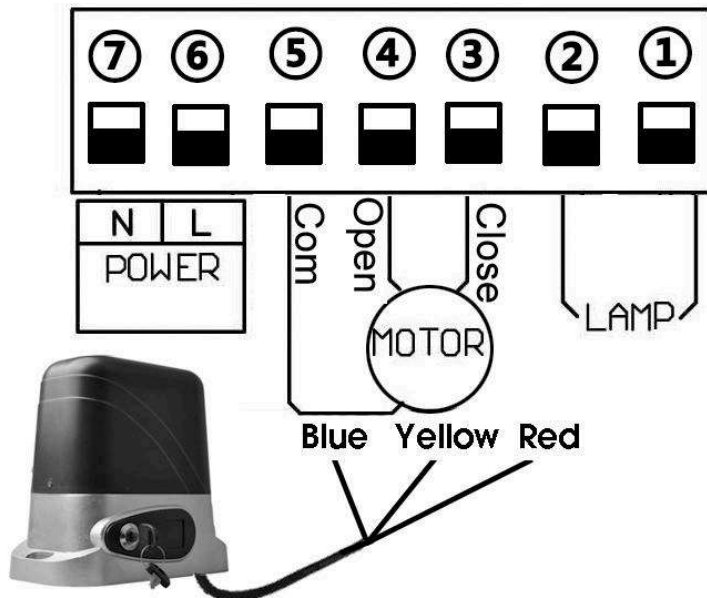

Fig 7
A. Install the motor on the right of gate.(Please see Fig 7)